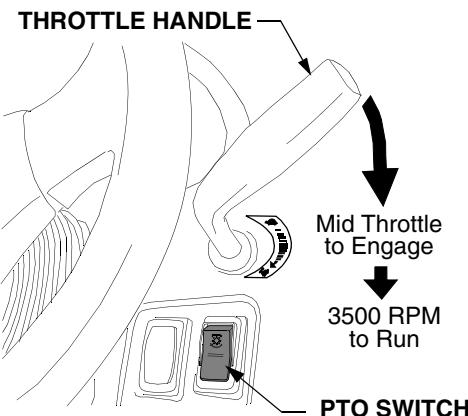

Figure 21
- Move the throttle handle to the mid throttle position. See Figure 21.
- Push the top of the PTO switch downward to engage the PTO (See Figure 21). The PTO light on the instrument panel will come on.